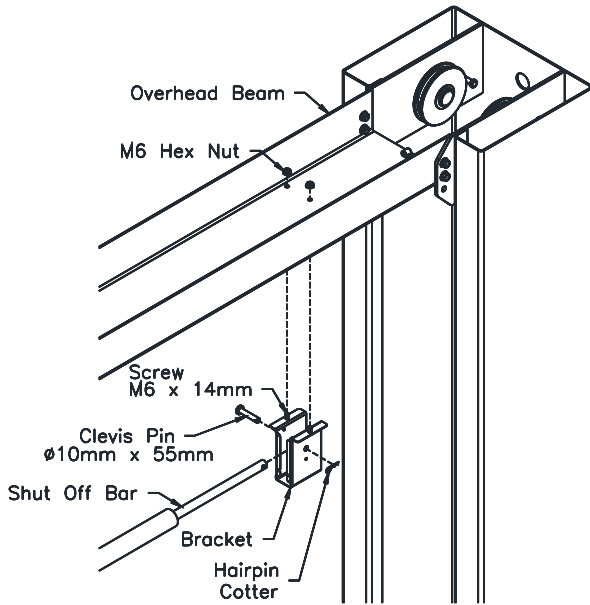

Fig. 4b – Overhead Bracket Idler Side
- 16) Install the Idler Bracket to the Overhead Beam using the rear set of holes on the Idler Side of the lift. **Fig. 4b**. Note the orientation of the